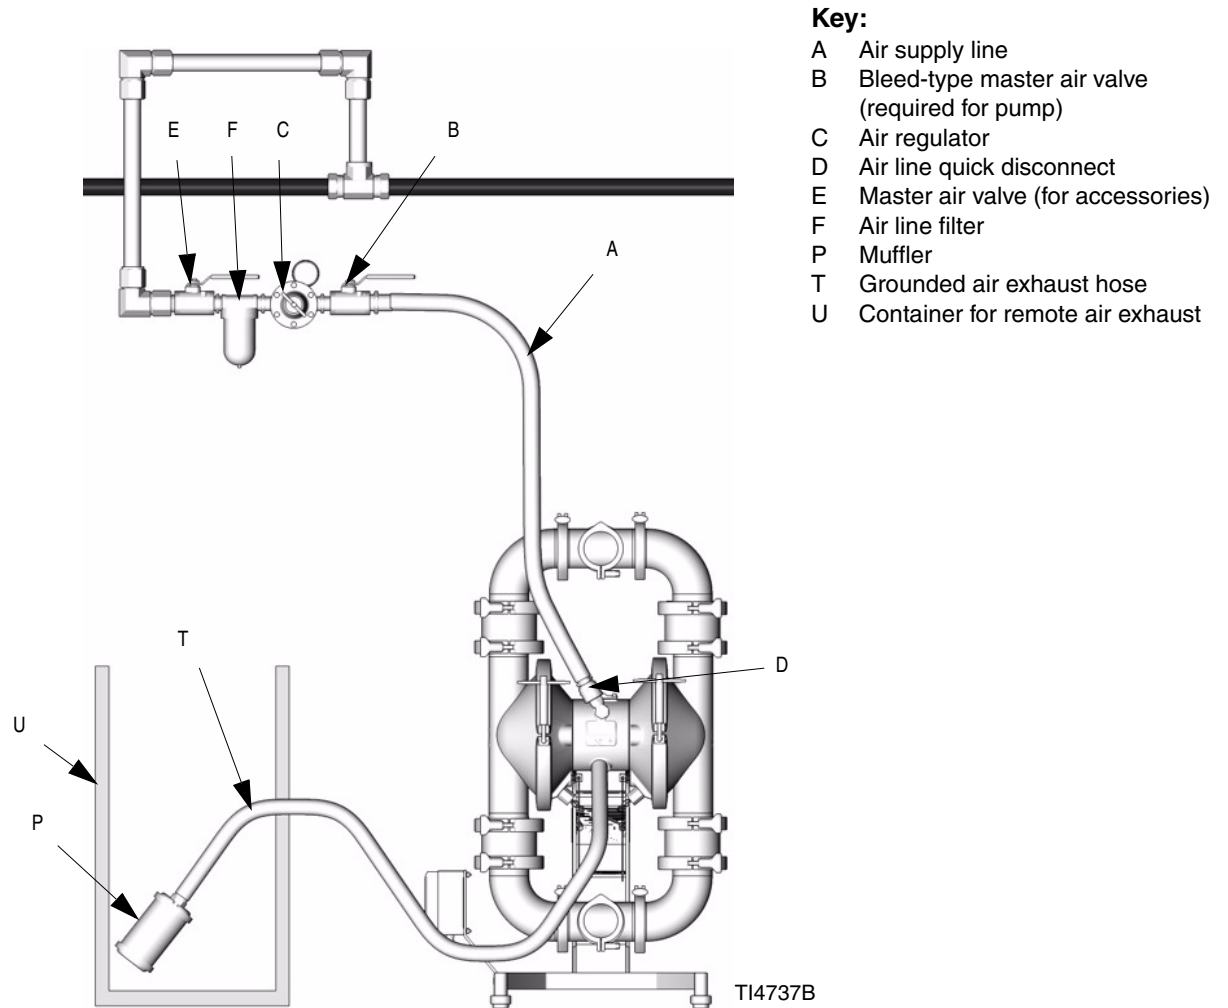

FIG. 5 Venting Exhaust Air
Diaphragm failure can cause the fluid being pumped to exhaust with the air. Place an appropriate container at the end of the air exhaust line to catch the fluid. See FIG. 5.
1. Remove the muffler (P) from the pump air exhaust port. See FIG. 5.
2. Install a grounded air exhaust hose (T) and connect the muffler (P) to the other end of the hose. The minimum size for the air exhaust hose is 3/4 in. (19 mm) ID. If a hose longer than 15 ft (4.57 m) is required, use a larger diameter hose. Avoid sharp bends or kinks in the hose.
3. Place a grounded container (U) at the end of the air exhaust line to catch fluid in case of a diaphragm rupture. See FIG. 5.